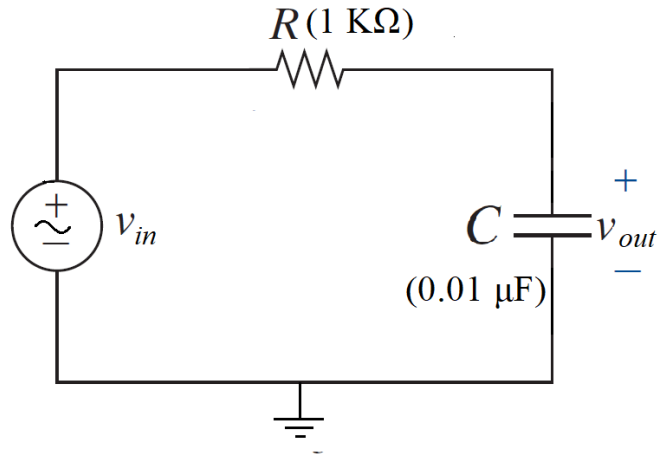

Figure 1: Low Pass RC filter
1. Patch the RC circuit given in Fig. 1 on the breadboard and apply sinusoidal signal from the signal generator. Adjust the magnitude of the sinusoidal signal to 10 V peak and 100 Hz.
1. Patch the RC circuit given in Fig. 1 by interchanging the resistor and capacitor positions and apply sinusoidal signal from the signal generator. Adjust the magnitude of the sinusoidal signal to 10 V peak and 100 Hz.